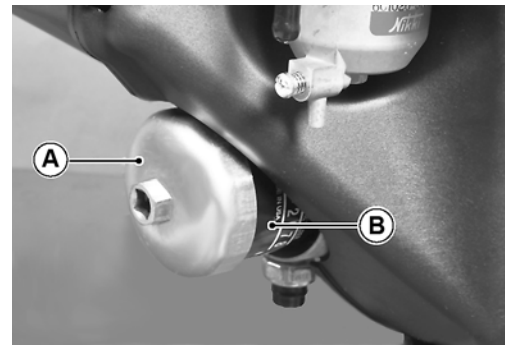

Fig. 19 Remove Oil Filter
Clean the area around filter. Using a filter wrench, strap wrench or other suitable wrench (A), remove the filter (B) from the engine and allow the oil to drain. The 'O' rings may remain on engine or filter (Ref Fig. 19 on page 16)